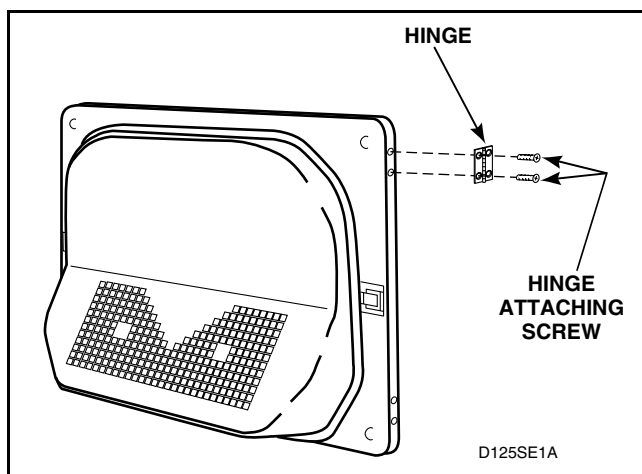

Figure 30
- f. Reinstall the two hinges on the side of door opposite of door pull and door strike. Refer to *Figure 30*.
**NOTE:** Screw the hinges onto door with the hinge pin facing the front of the door. Refer to *Figure 30*.